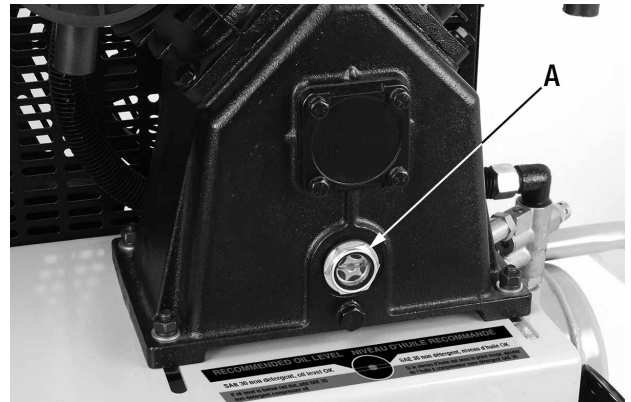

FIGURE 6
- 1) Make sure the oil level in the crankcase reaches the centre dot of the oil sight glass (A) Fig.6. If needed, refer to maintenance section in this manual for instructions on filling the crankcase with oil.